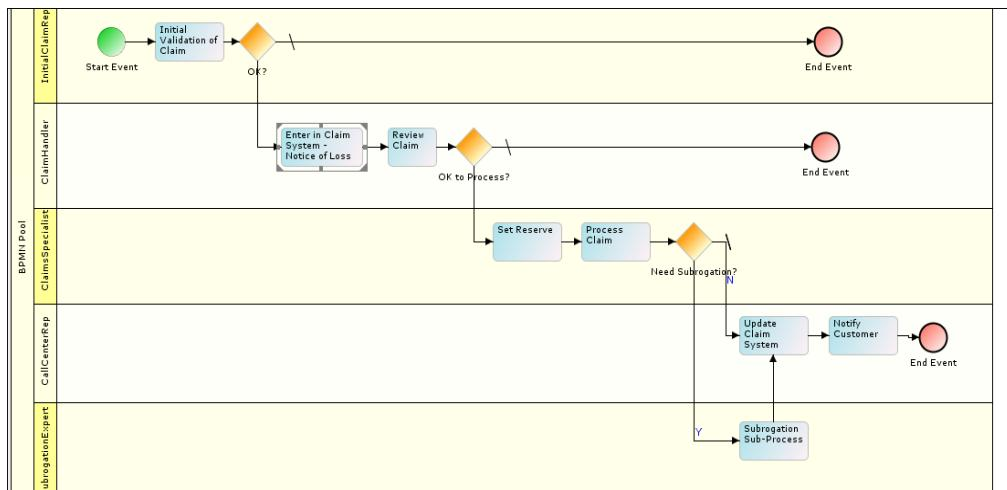

Figure 21: Connecting all Workflow Elements
- Connect all workflow elements with appropriate control flow (see Figure 21).
5. Connect all workflow elements with appropriate control flow (see Figure 21).